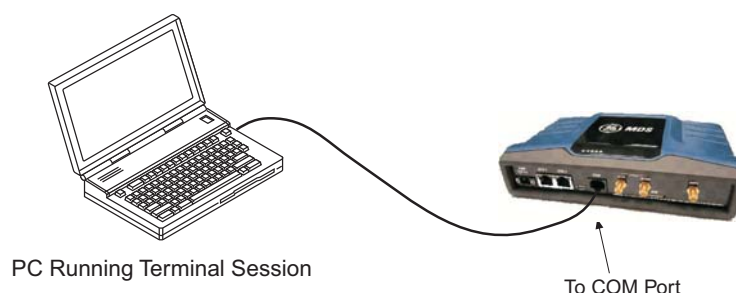

Figure 11. PC Connection for Programming/Management
1. Connect a PC to the unit’s COM port as shown in Figure 11. (Maximum recommended cable length: 50 ft./15 m)